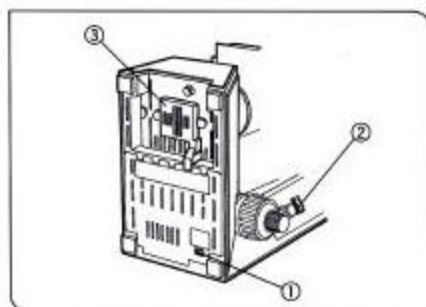

Fig. 1
1. Make sure that the voltage selector switch ① located on the underside of the base of the microscope frame is set to conform with the local mains voltage. Move the switch using an Allen wrench, etc. (Fig. 1)